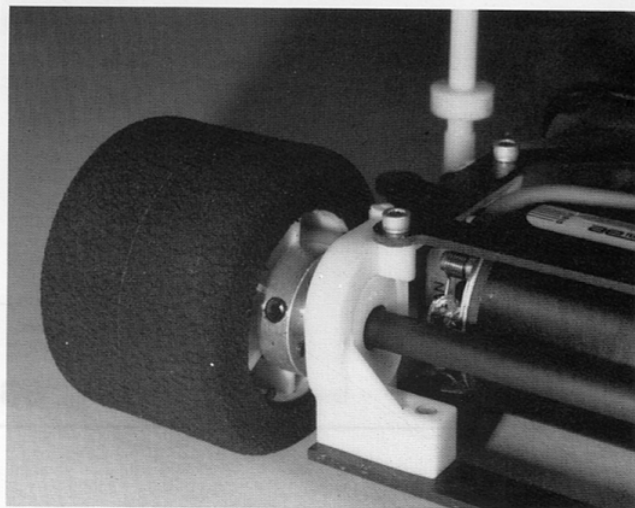

Fig. 73
□ **Fig. 73**—Re-install the axle, spacer and then the left hand wheel. Tighten the set screw lightly. We need a very small amount of end play. See if the axle will slide a very small amount to the left and right. If it will, tighten the set screw down.